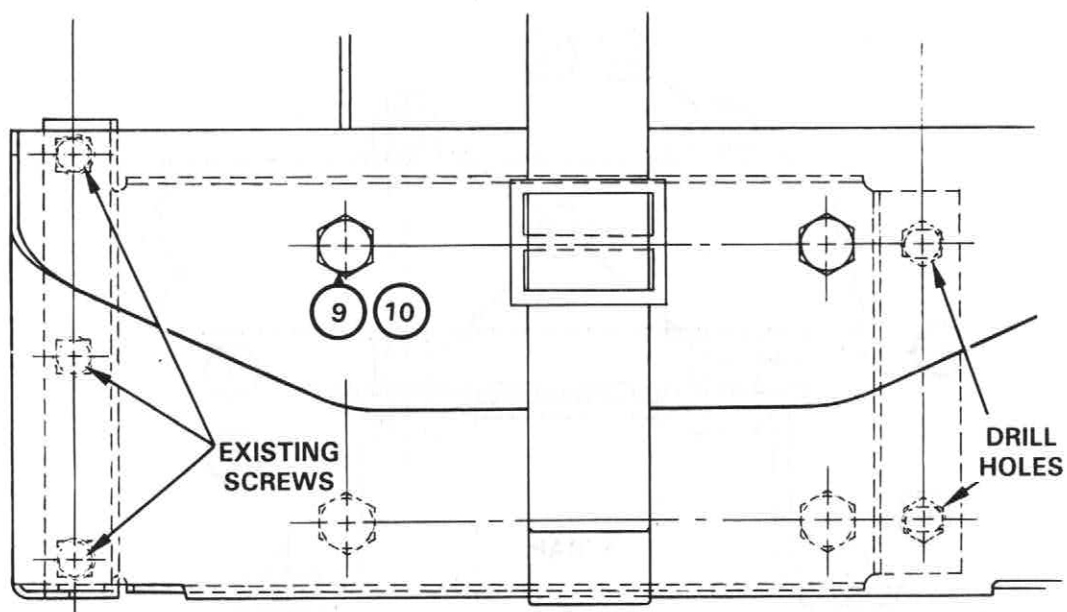

Figure 7 Installing Fuel Can Bracket
- a. See Figure 7. Remove and discard the three existing 6 mm screws located approximately 9 mm to the left of the tailgate.
- c. See Figure 7. With an 8 mm drill bit, and using the support (1) as a template, drill the opposite two holes through the vehicle tailgate.
- e. See Figure 7. Fit the fuel can bracket to the support (1) and secure using the screws (9) with self-locking nuts (10).